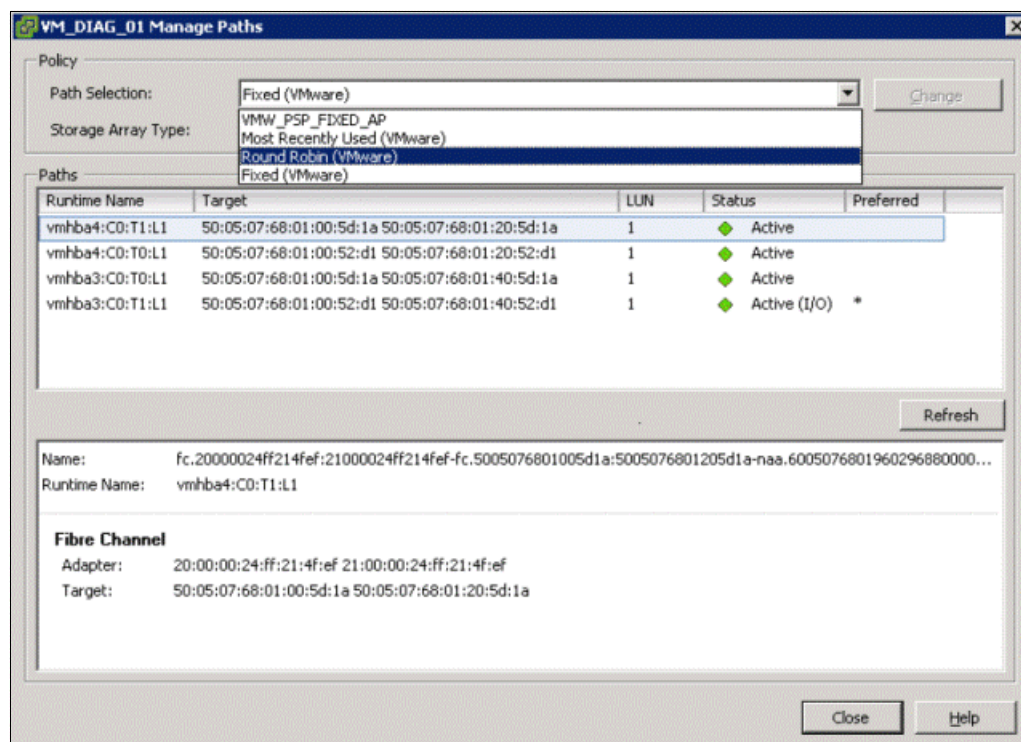

Figure 5-93 Path Policy Selection
2. In the **Manage Paths** dialogue window, select **round robin** from the *path selection* drop-down menu. Click the **Change** button, as shown in Figure 5-93.